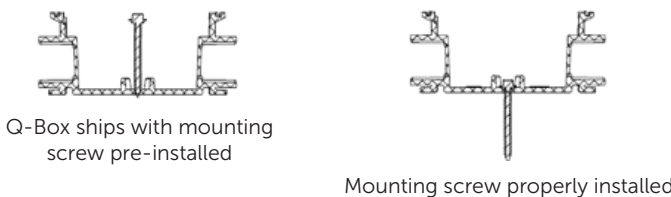

Figure 1 - Inboard Mounting
4. Ensure screw is properly seated to make a watertight seal as shown in Figure 1.